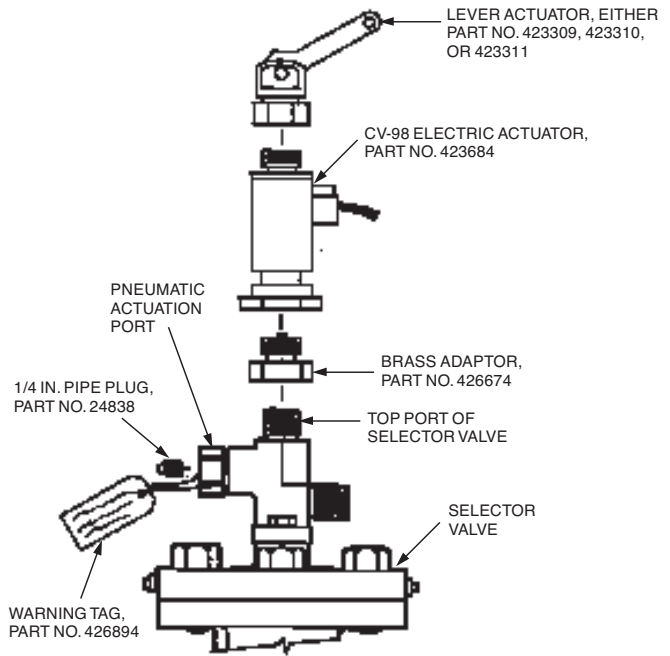

FIGURE 8
1. Install brass adaptor, Part No. 426674, into top port of selector valve. See Figure 8. Wrench tighten.
2. Install 1/4 in. pipe plug, Part No. 24838, into the pneumatic actuation port on selector valve. See Figure 8. Wench Tighten.
3. Attach the warning tag, Part No. 426894, near the pipe plug. See Figure 8.
4. Make certain piston in bottom of CV-98 electric actuator, Part No. 423684, is free to move up and down and install the actuator to the brass adaptor on top of the selector valve. See Figure 8. Tighten securely. (Do not exceed 10 ft. lb. (13.6 Nm) torque).